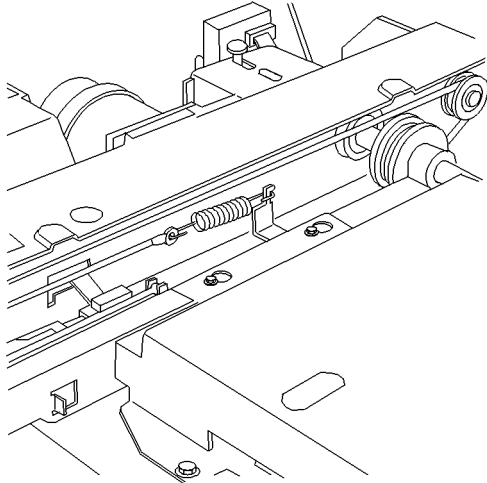

Figure 3 Removing Carriage Cable
7. Remove Carriage Cable (Figure 3).